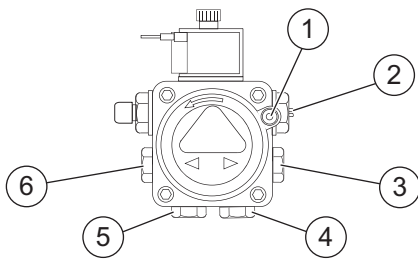

Fig. 65 Oil pump ports/connections
- ▶ Adjust the air shutter [3] → figure 66 and pump pressure [2] → figure 65 to the values shown in the table 11 on page 41. The burner should ignite following a pre-ignition period of approximately 15 seconds.